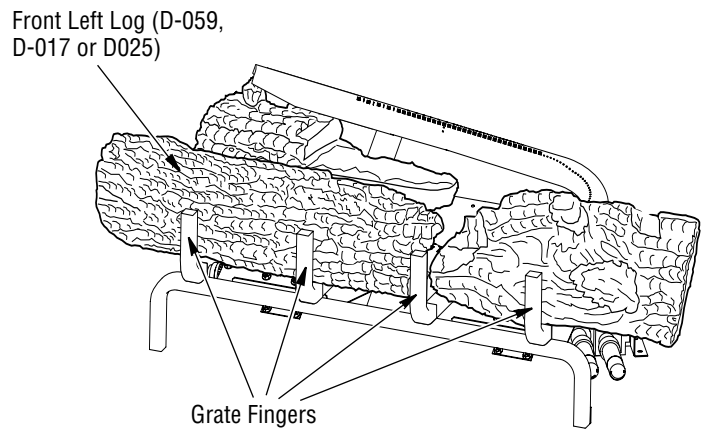

Figure 20 - Installing Front Left Log
3. Find the front left log (LMF24GTA/B or LMF24MOA/B models: D-059, LMF30GTA/B or LMF30MOA/B models: D-017, LMF36GTA/B or LMF36MOA/B models: D-025). See **Figures 20, 20A, and 20B**. The log has a rectangular stand off on the bottom that fits against the lip on the black metal base as shown in **Figure 20A, Page 13**. The bottom of this log has a slot that fits over the second bar on the grate as shown in **Figure 20B, Page 14**. Place the log on the base assembly as shown in figures.